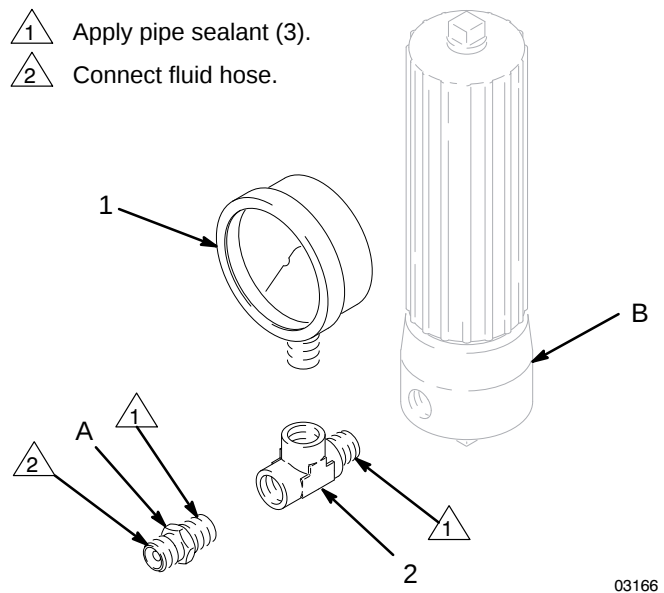

Fig. 2
2. Remove the pipe nipple (A) from the outlet of the fluid filter (B). See Fig. 2.
3. The gauge (1) is shipped assembled to the tee (2), but is shown exploded for clarity. Apply pipe sealant (3) to the male threads of the tee (2).
4. Install the tee and gauge assembly in the filter (B).
5. Apply pipe sealant (3) to the long end of the nipple (A) and screw the nipple into the tee (2).
6. Connect the fluid hose to the nipple (A).